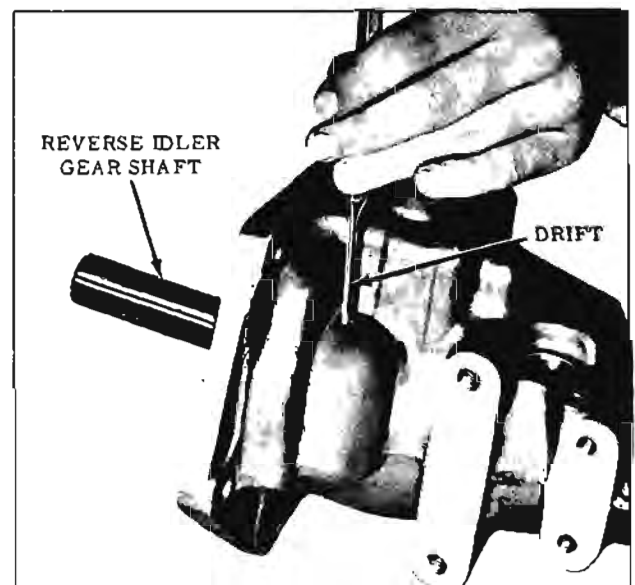

Fig. 11-252 Removing Reverse Idler Gear Shaft
5. The reverse idler gear shaft may be replaced by carefully driving the lock pin into the shaft, then pull the shaft and pin from the front of the extension housing. (Fig. 11-252)